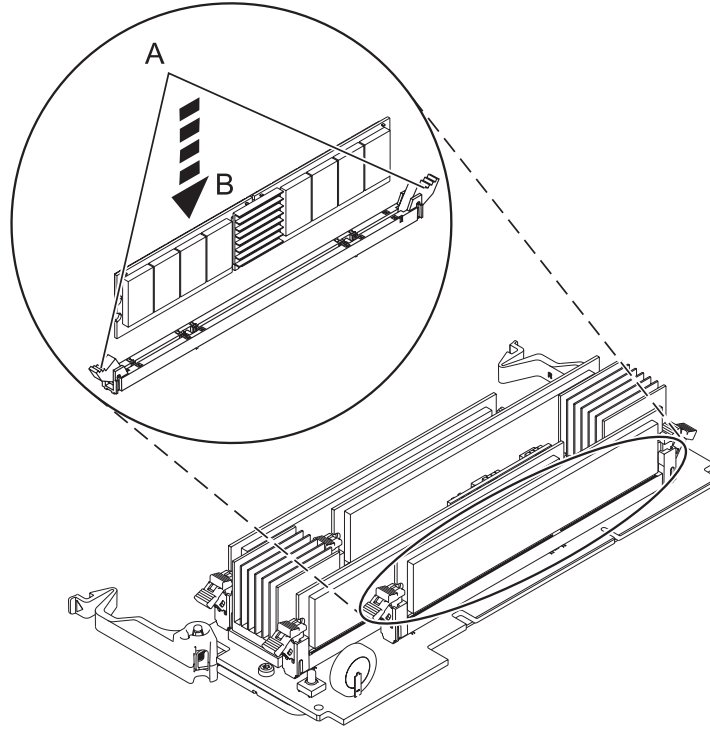

Figure 5. Installing a memory module
13. Ensure that the connector locking tabs (A) are pushed into the unlocked position, as shown in Figure 5 on page 12, before installing a new memory module.
14. Carefully grasp the memory module along the edge (B) and align it with the connector.